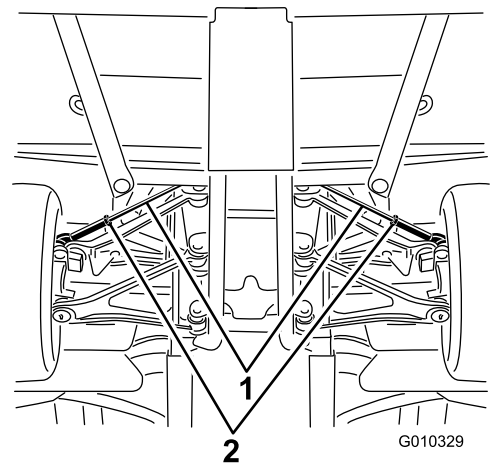

Figure 55
- A. Loosen the jam nut at the center of the tie rod (Figure 55).